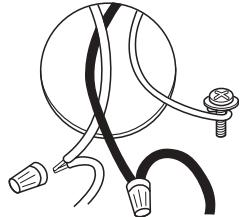

Figure 6
See Figure 6.
6. Connect black fixture wire(s) to black power supply wire with wirenut. Connect white fixture wire(s) to white power supply wire with wirenut. **See Figure 6.**
Voir la figure 6.